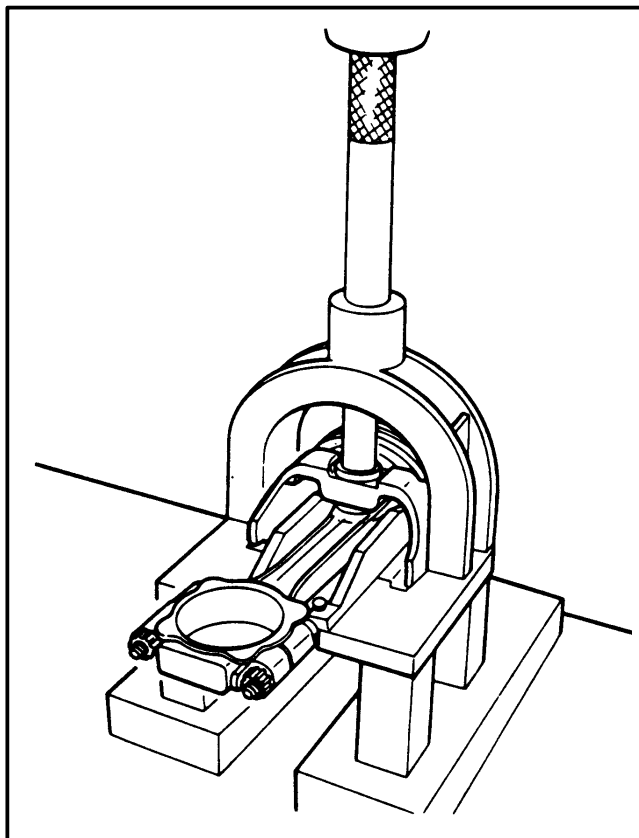

FIGURE 24. PISTON PIN REMOVAL
1. Remove the piston rings from the pistons. Use a press to remove the piston pins from the piston. See FIGURE 24.